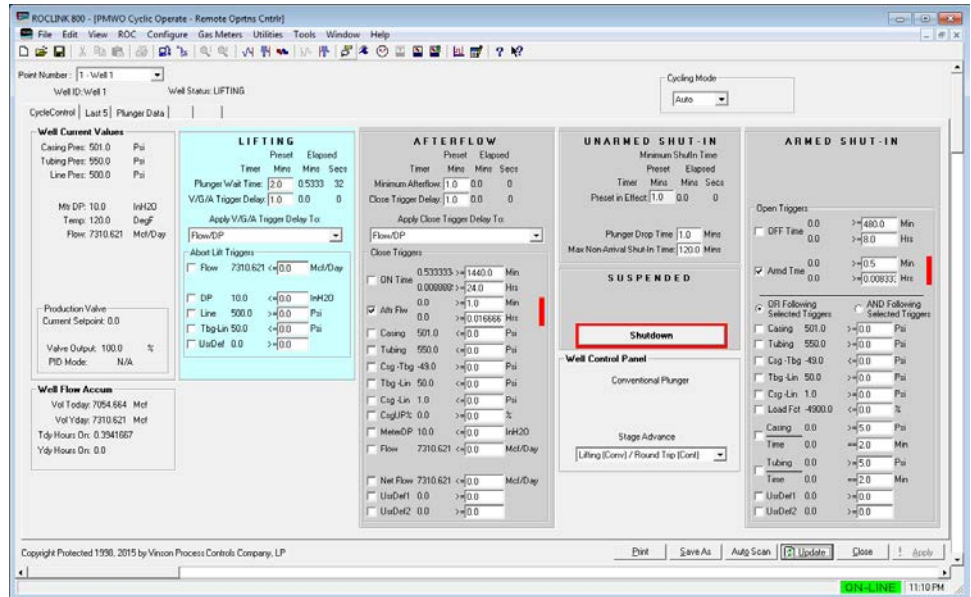

Figure 105. Plunger Lift Simulation – CycleControl tab, with the Lifting State highlighted
3. If necessary, update the **Aft Flw** (after flow), **Armd Tme** (armed time), and **Preset In Effect** fields, as shown in *Figure 105*. For the simulation, select a low value for each field, for instance, 1 minute. Click **Apply** to save the changes you make.
- If you use a single solenoid output (discrete) for the production valve, the screen appears as shown in *Figure 105*. Press the **Reset Well** button to open the production valve and begin the cyclic operation. The **Armed Shutin** state goes active.